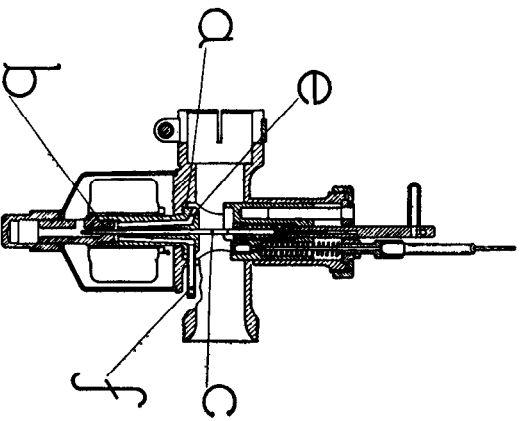

FIG. 34.—SECTIONAL ARRANGEMENT OF SINGLE-LEVER CARBURETTER.
- (1) By a vertical rod engaging with a special quick-thread in the centre of the throttle, and which raises or lowers the taper needle $\frac{1}{4}$ in. for one complete turn. The bar is screwed right-hand so that turning anti-clockwise raises the needle, thereby richening the mixture. Should the throttle control cable restrict the required amount of turn, holes in the side of the bar give alternative positions for the operating rod (see Fig. 34).
- (2) By a Bowden-operated control fitted to the handlebar. The nipple soldered to end of inner cable rests against the head of taper needle, which is kept in contact with the nipple by a spring, so that when the inner cable is moved up and down, the needle follows because of the spring pressure. The control is marked "rich" and "weak" to indicate the needle setting. On no account should the control lever be used as an ordinary "air-control lever" is used. It should remain stationary except when deliberately wishing to alter the size of the jet for starting from cold, or when an extra-rich mixture is required.
The action of the carburetter is very simple, and reference to the sectional drawings, Figs. 34 and 35, will make it clear.
float chamber. The construction of both types is generally as shown in Figs. 34 and 35.